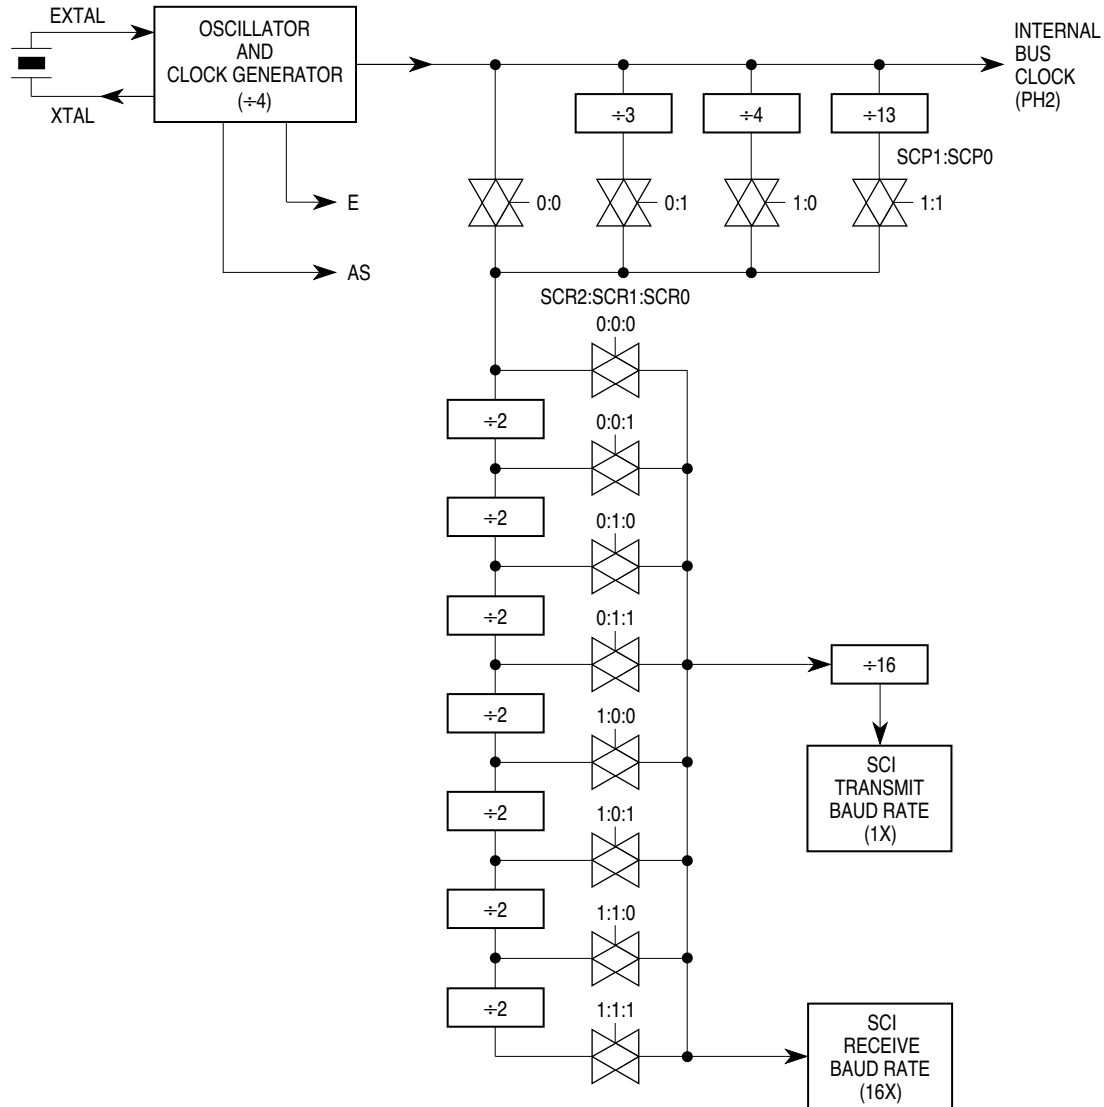
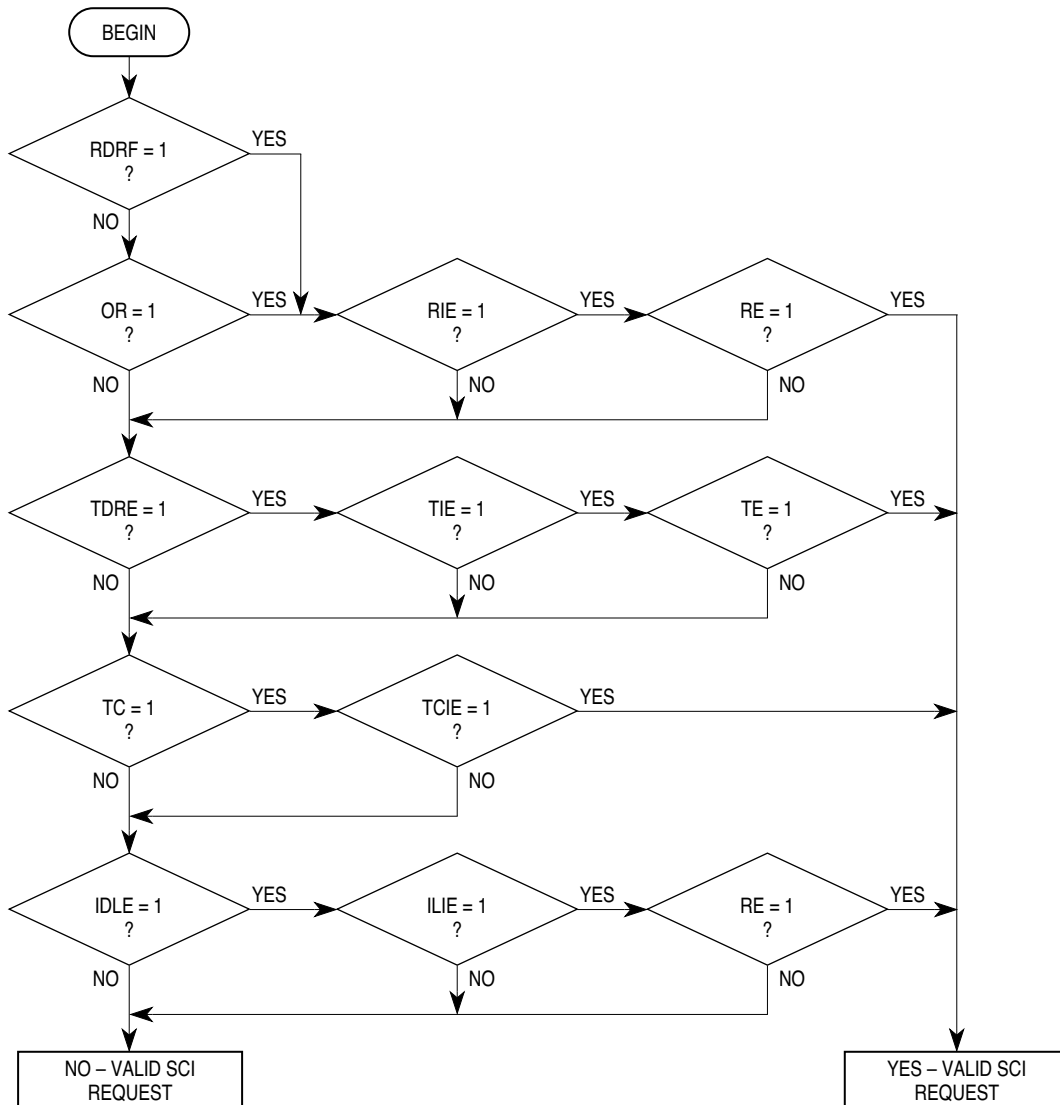

Figure 7-3 SCI Baud Rate Generator Block Diagram
Figure 7-4 Interrupt Source Resolution Within SCI
Figure 7-3 and **Figure 7-4** illustrate the SCI baud rate timing chain. The prescaler select bits determine the highest baud rate. The rate select bits determine additional divide by two stages to arrive at the receiver timing (RT) clock rate. The baud rate clock is the result of dividing the RT clock by 16.